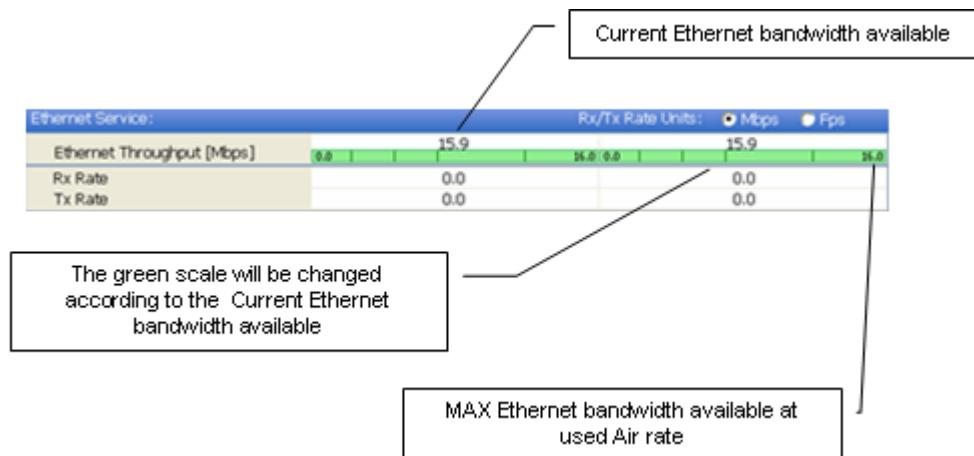

Figure 4-7: Ethernet Bandwidth Indication
- Current Ethernet bandwidth in Mbps. This is not the actual traffic rate, but the maximum capacity (Net symmetrical Throughput "Full-Duplex") that can be supported currently, (see Figure 4-7).The scale on the bar varies depending on the link distance and air interface quality.